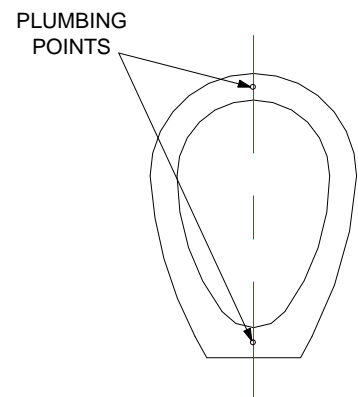

Fig 1
4. The Ovoid pipe should be mated with the previously laid pipe socket lining up the jointing lines (see Fig 1) cast in the crown of the pipes. The spigot should enter the socket with an even gap around the pipe.